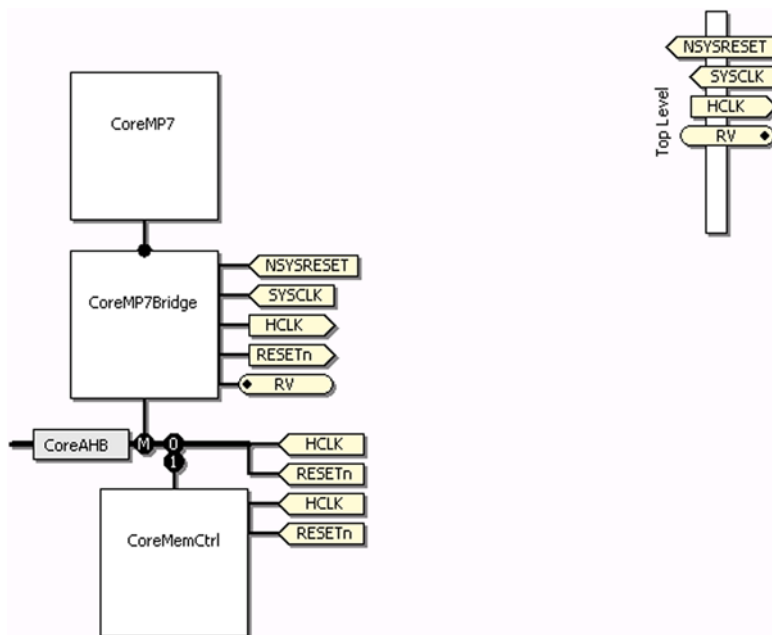

Figure 5-8. CoreConsole Schematic after Connecting ARM JTAG Interface
9. Click **OK**. Your schematic should resemble the one in Figure 5-8.